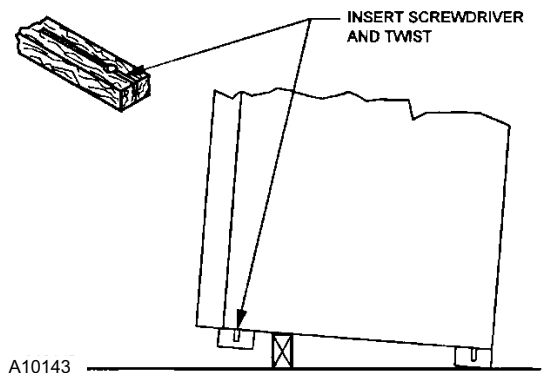

FIGURE 1. Removing Shipping Boards
4. Remove the base shipping boards by inserting a large screwdriver or prying tool into the notch provided and splitting the knock-away boards. See Figure 1.
5. Locate the key in the coin return cup and unlock the vendor. The "T" handle latch requires a minimum of three (3) full turns counterclockwise to open the main door.